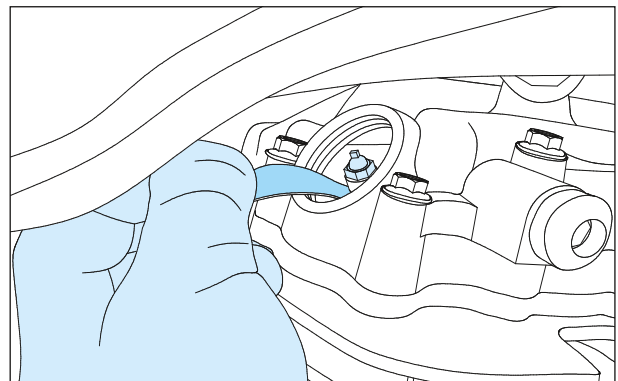

Fig. 2.28
- Insert the appropriate feeler gauge in between the rocker arm and valve stem, inspect the clearance. (Fig. 2.28)